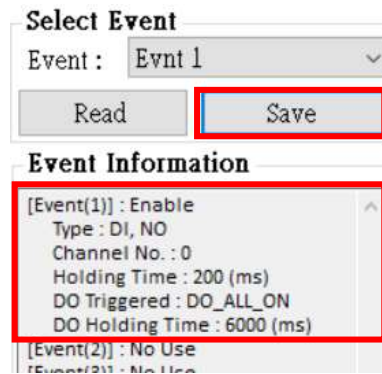

Figure 6.10.12
- J. After setting, select “SAVE” to save as shown in Figure 6.10.12. Complete the list below to display the settings just made.